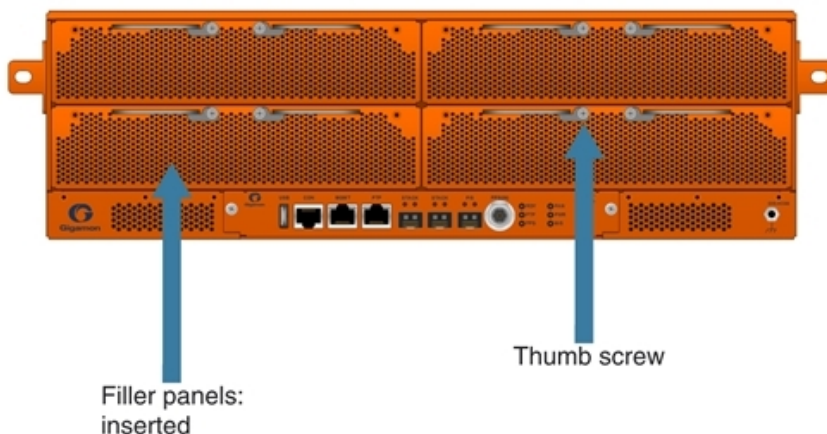

Figure 8: Filler Panels Inserted
3. Locate the protective filler panels in the bays. Refer to Figure 8: Filler Panels Inserted.